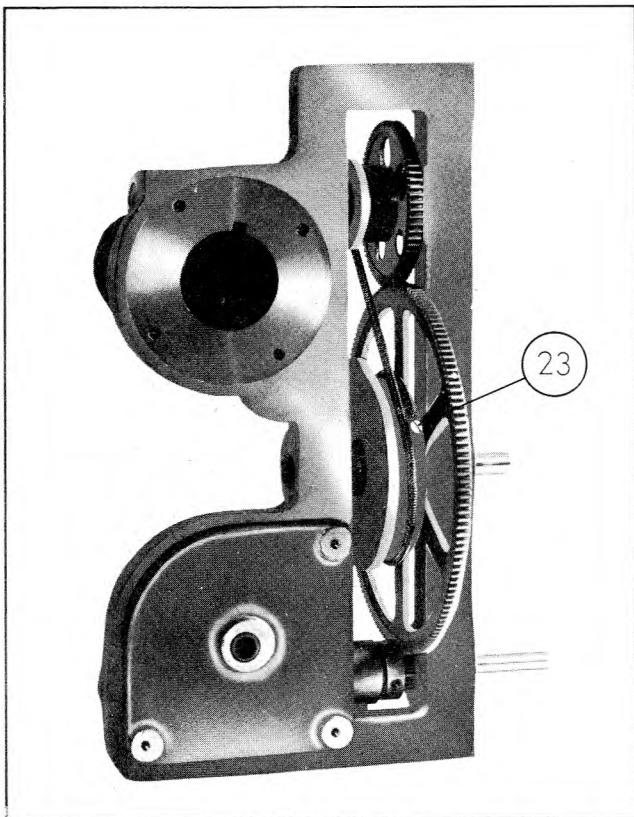

Figure 4-16. Left View of Assembled Drive
With the gears still in the same position, that is with the bottom shaft completely clockwise, fasten one end of the 6 inch spring (24) to the 10 o'clock hole in the hub of large spur gear. Start the spring around the hub of the large gear in a clockwise direction, but instead of winding the spring around the drum, push the spring to the back and make one turn around the hub of the cam. Then fasten the loose end of the spring to the 4-40 tapped hole at three o'clock in the hub of the small spur gear. The spring may now be wound on the small drum by turning the lower shaft, and then put in place on the large drum. Figures 4-16 and 4-17 show the spring in place with one end of the spring terminating at three o'clock on the small spur gear hub and with the other end of the spring at 10 o'clock on the large spur gear hub.